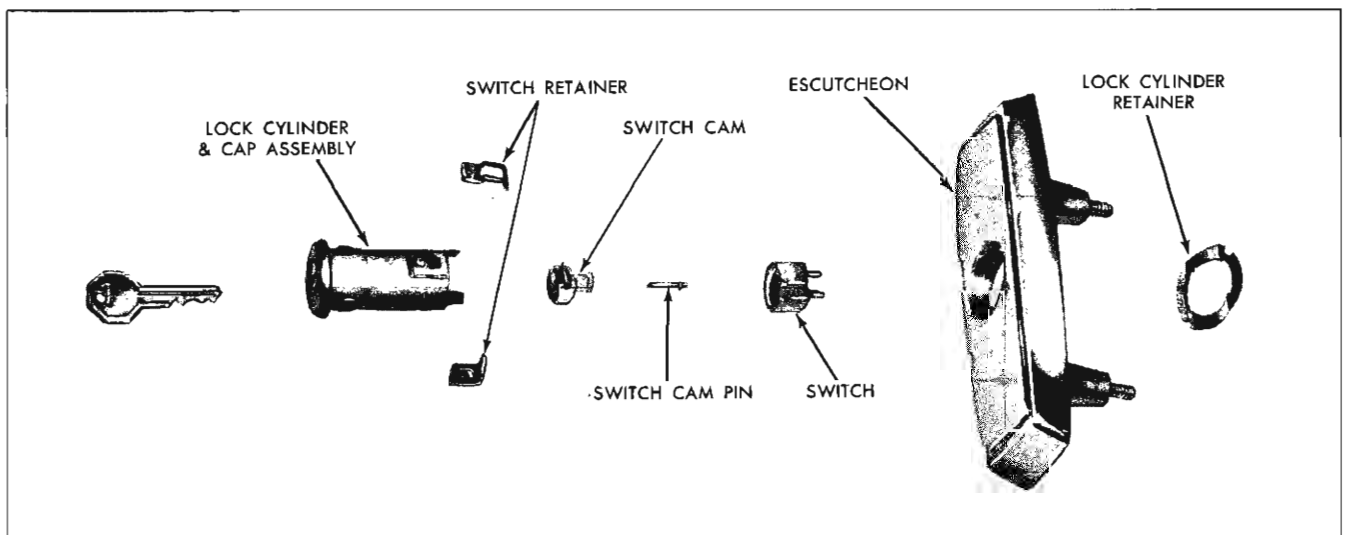

Fig. 14-22 Tailgate Handle and Lock Details
3. Using a pointed tool inserted through hole in lock cylinder case, depress tab of both switch retainers and remove retainers and switch (Fig. 14-22).
4. Using a suitable pliers, grasp pin of switch cam firmly and pull switch cam straight out from lock cylinder (Fig. 14-22).